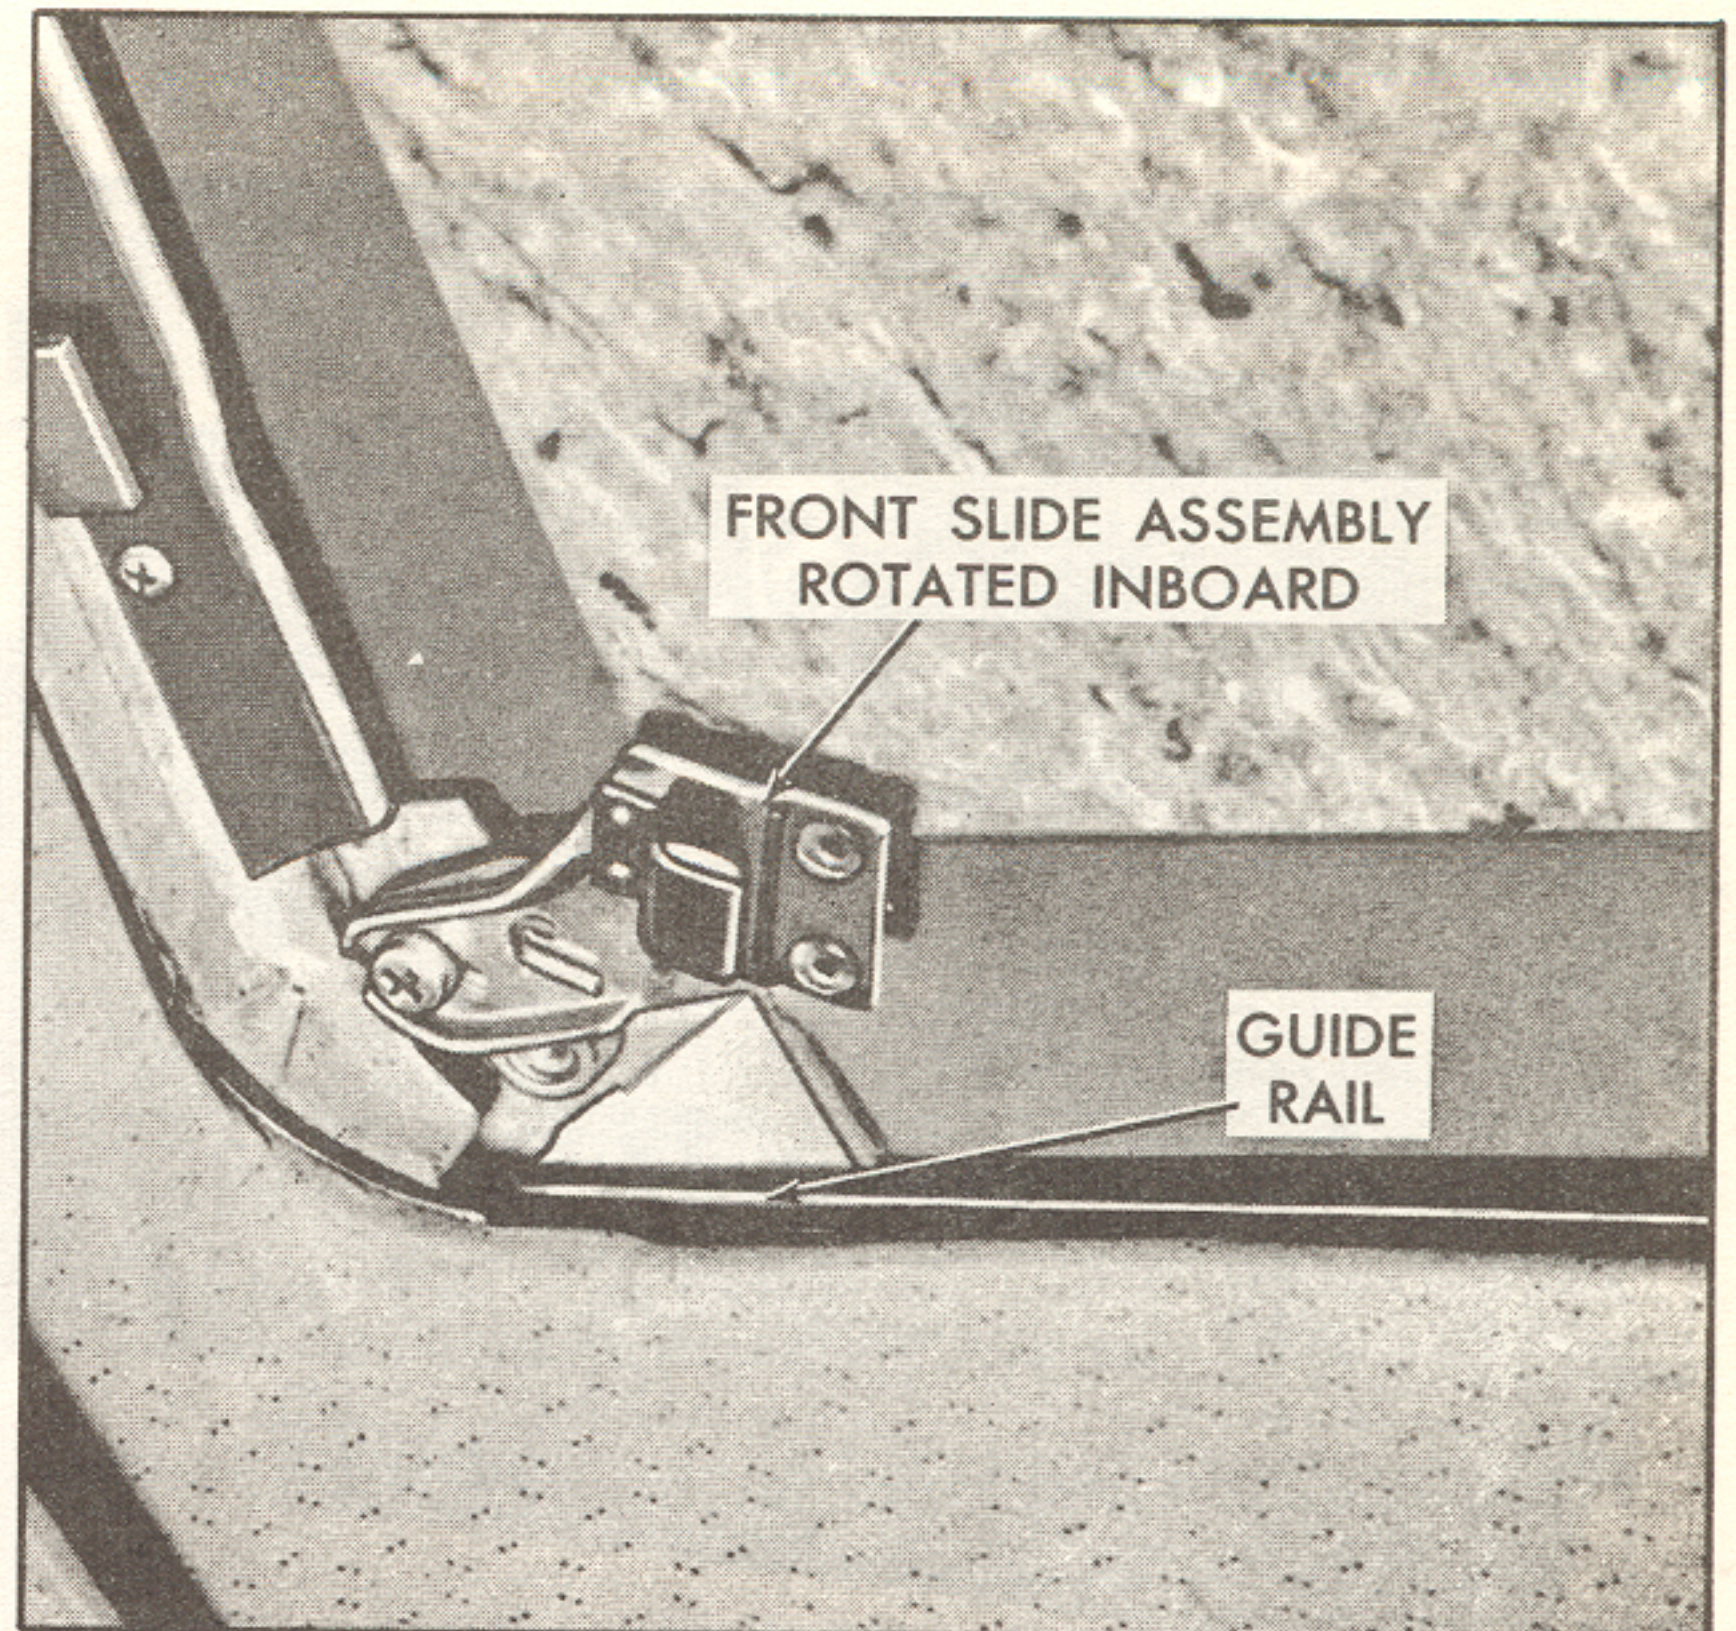

Fig. 18. Front Slide Assembly Clear of Guide Rail
5. Loosen inboard slide screw and rotate each front slide assembly inboard to clear guide rail, Fig. 18.